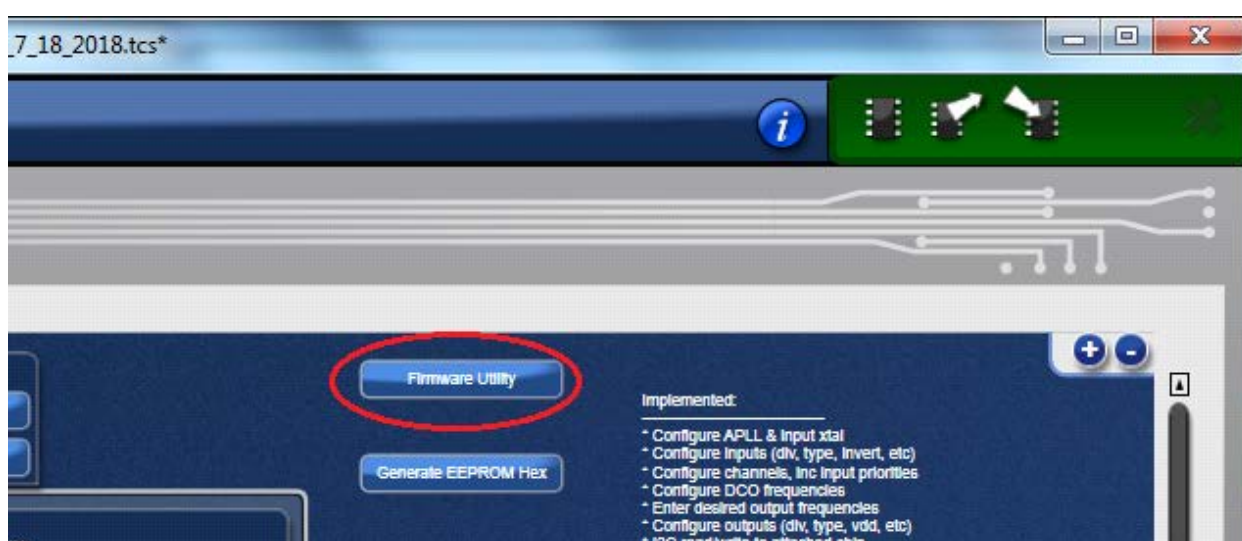

Figure 14. Reading Firmware Version
8. Once the connection is made, the firmware version can be read within the GUI. Click the “Firmware Utility” button to bring up the Firmware Utility window, as shown in Figure 14.